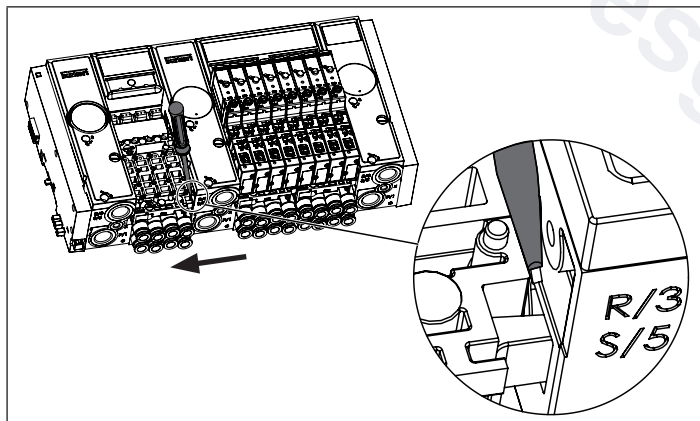

Fig. 16: Unlocking bottom latch hook
- Unlock the bottom latch hook. To do this, push the left connection module parallel to the standard rail of the locked valve unit away with a slotted screwdriver at the bottom latch hook, until the bottom latch hook unlocks (see “Fig. 16”).
- Unlock the bottom latch hook. To do this, push the connection module parallel to the standard rail of the locked valve unit away with a slotted screwdriver at the bottom latch hook, until the bottom latch hook unlocks (see “Fig. 16”).
- Unlock the bottom latch hook. To do this, push the right connection module parallel to the standard rail of the locked valve unit away with a slotted screwdriver at the bottom latch hook, until the bottom latch hook unlocks (see “Fig. 16”).